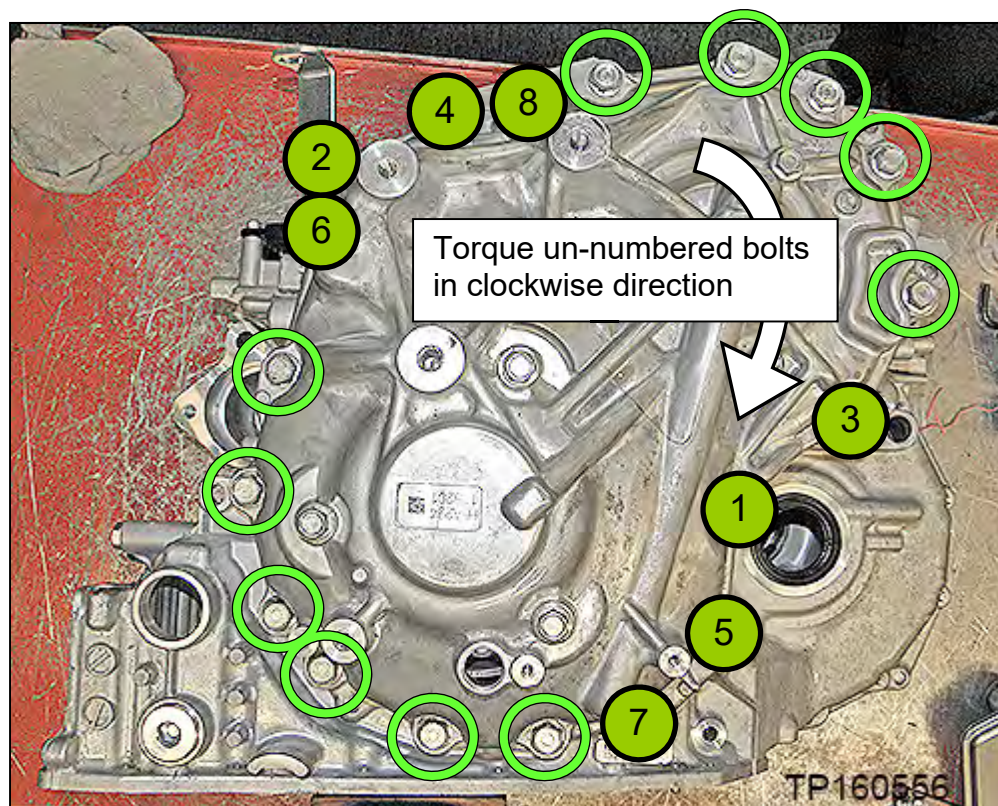

Figure 105
80. Install the new side cover bolts (Figure 105).
- Torque the first eight (8) bolts marked as  in the sequence numbered in Figure 105 below, and then torque the rest of the bolts in a clockwise direction.